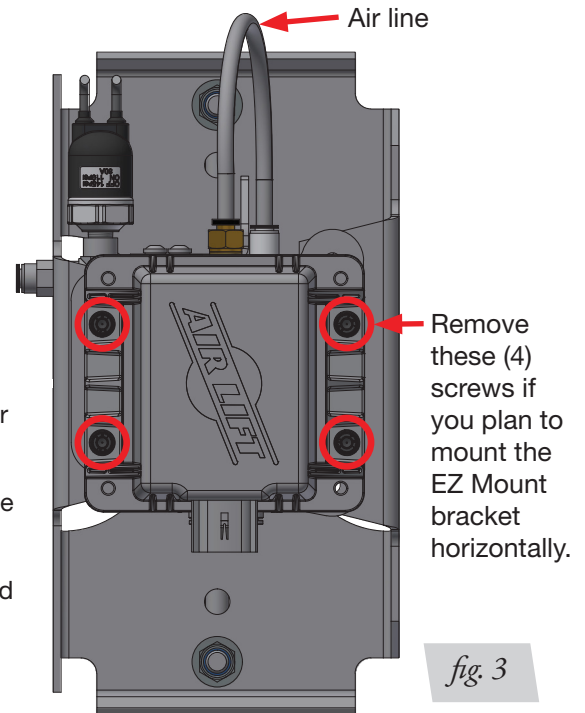

fig. 3
1. If you plan to mount the EZ Mount bracket vertically (Fig. 3), skip to the Preparing the Tank section of this installation guide.
3. Remove the air line that attaches between the elbow fitting and the manifold (Fig. 3).
4. Remove the (4) screws mounting the manifold to the EZ Mount bracket (Fig. 3).